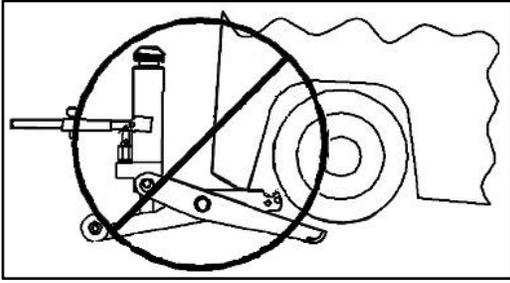

Fig. 8: Only use the notch/lift pad to lift forklift
- ⚠** Never use any other area on the jack as a contact point (Fig. 8).